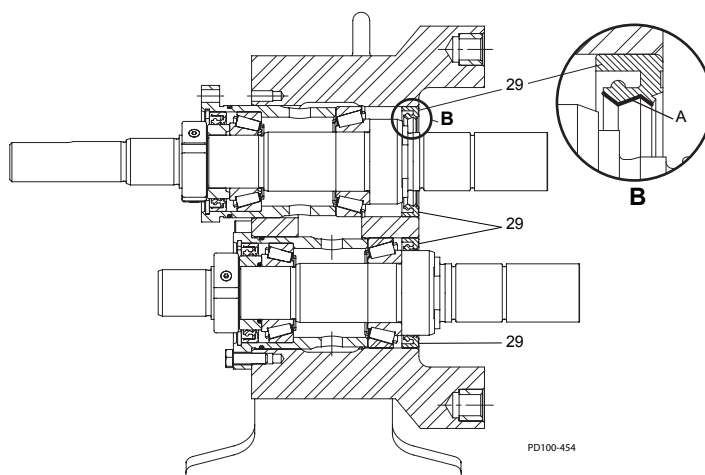
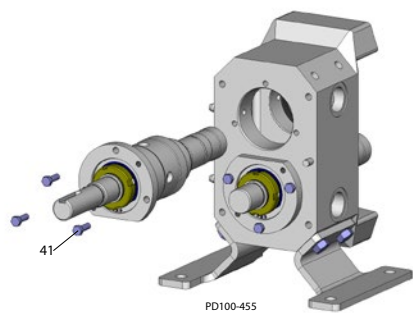

Figure 48 - Apply Bearing Grease
Figure 49 - Secure with Cap Screw
1. See Figure 48. Apply a coating of bearing grease to the inside diameter (item A) of the front lip seals (item 29).
- 2. Install the shaft assemblies into the gear case and secure them with cap screws (Figure 49, item 41). Apply a light film of bearing grease to the bores and bearing cups to ease installation. Use care to prevent damage to the lip seals (Figure 48, item 29) during assembly.